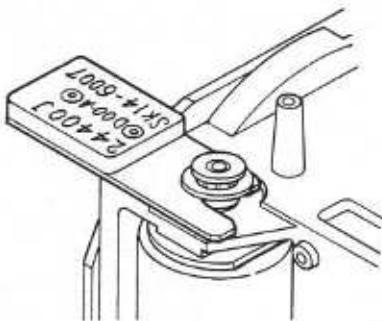

Fig. 10
- 5-6 Install Motor flange assy. (0-D4) to Motor and adjust its height by using the jig ( Motor Installing Frange Spacer ) as shown in Fig. 10.